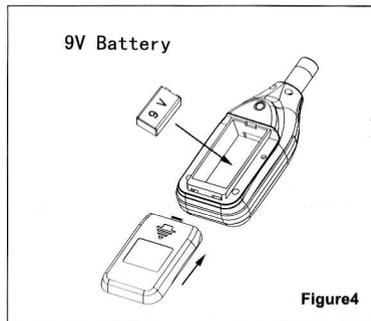

Figure4
3. When Low battery mark "  " appears, please replaced with a new 9V battery. (Figure 4)